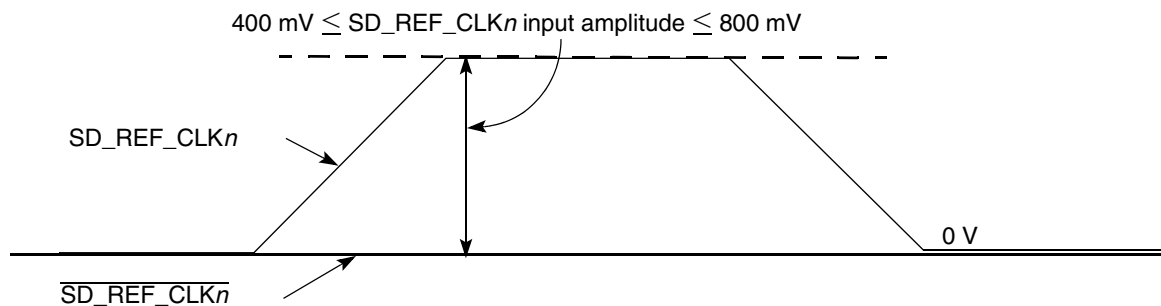

Figure 40. Single-ended reference clock input DC requirements
- The SD_REF_CLKn input average voltage must be between 200 and 400 mV. Figure 40 shows the SerDes reference clock input requirement for single-ended signaling mode.